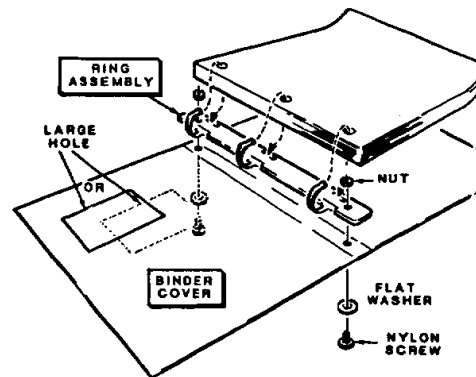

Figure 1
- ( ) Refer to Figure 1, locate the envelope marked "Binder Hdw", and remove the hardware.